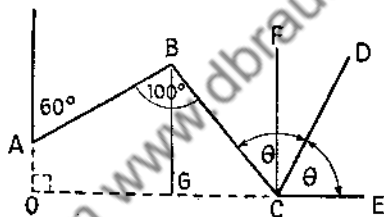

Fig. 16
(5) Calculate the angle marked  $\theta$  shown in fig. 16.  $BG$  and  $CF$  are parallel to  $AO$ .